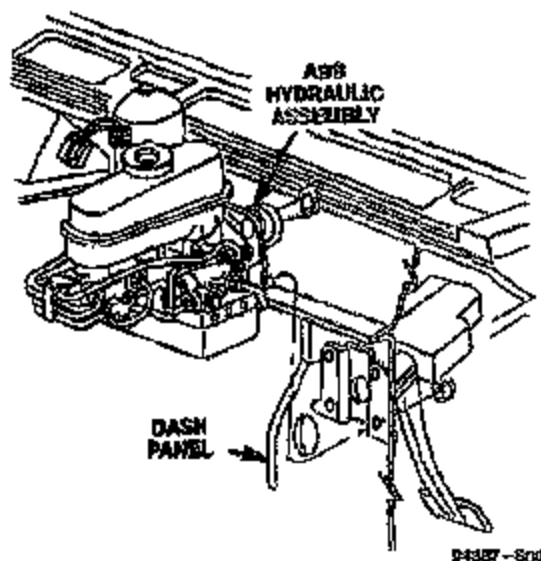

Figure 6
17. Remove the brake mounting bracket stud nuts (Figure 6).